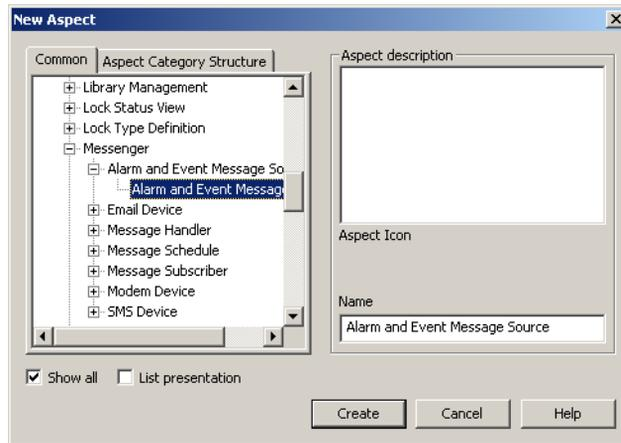

Figure 115. New Aspect Dialog Box (Alarm and Event Message Source)
- b. Navigate to and select Alarm and Event Message Source from the list that appears to produce the view shown in Figure 115.